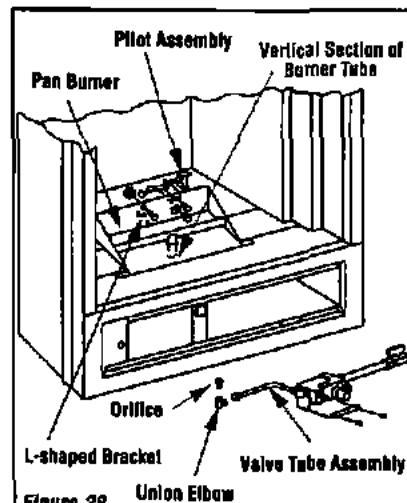

Figure 28
Step 3. Remove the grate. From inside the control compartment, undo the valve tube assembly from the union elbow, remove the orifice from the vertical section of the burner tube. See Figure 28.